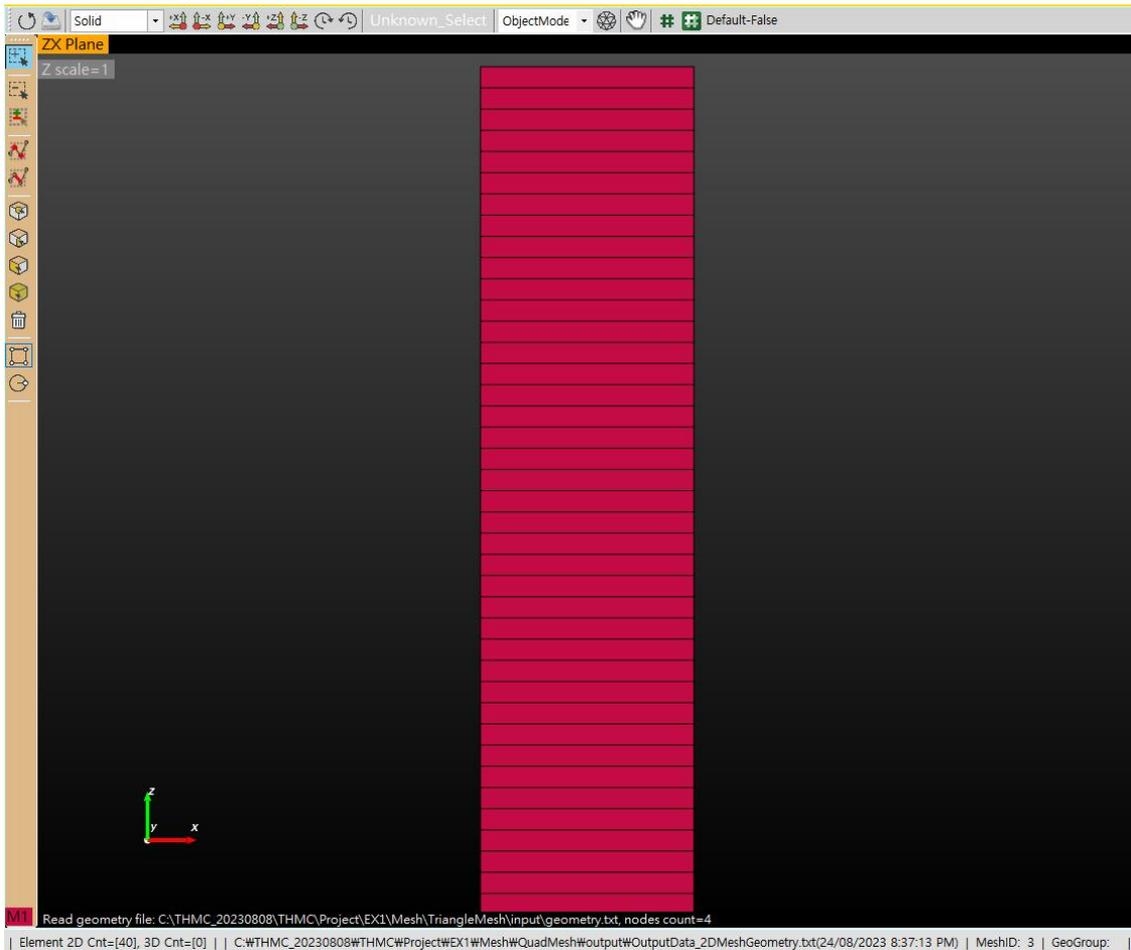

Figure 1.17. Divide the area of interest into 41 nodes in the z-direction.
9. The result of dividing the area of interest into 41 nodes in the z-direction is illustrated in Figure 1.17.
10. If the mesh has been created as shown in Figure 1.17, one would want to set initial and boundary conditions for the area of interest. In Benchmark problem 1 for the initial condition, since different values were input for the top, bottom, and the rest of the area of interest, we will specify initial conditions for each of these three parts separately. First, with 'Add Selection'  selected on the left side of the window, choose 'Select Nodes' .